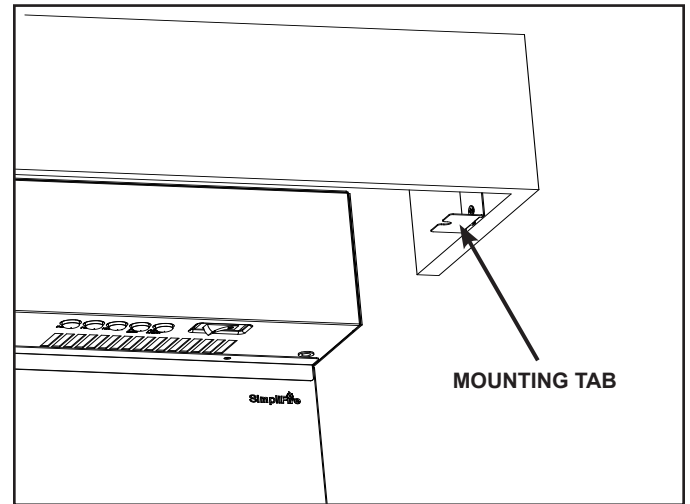

Figure 3
3. Before installing the top mantel, bend the mounting tabs slightly into a more open position to allow for clearance while installing the mantel. See Figure 3.